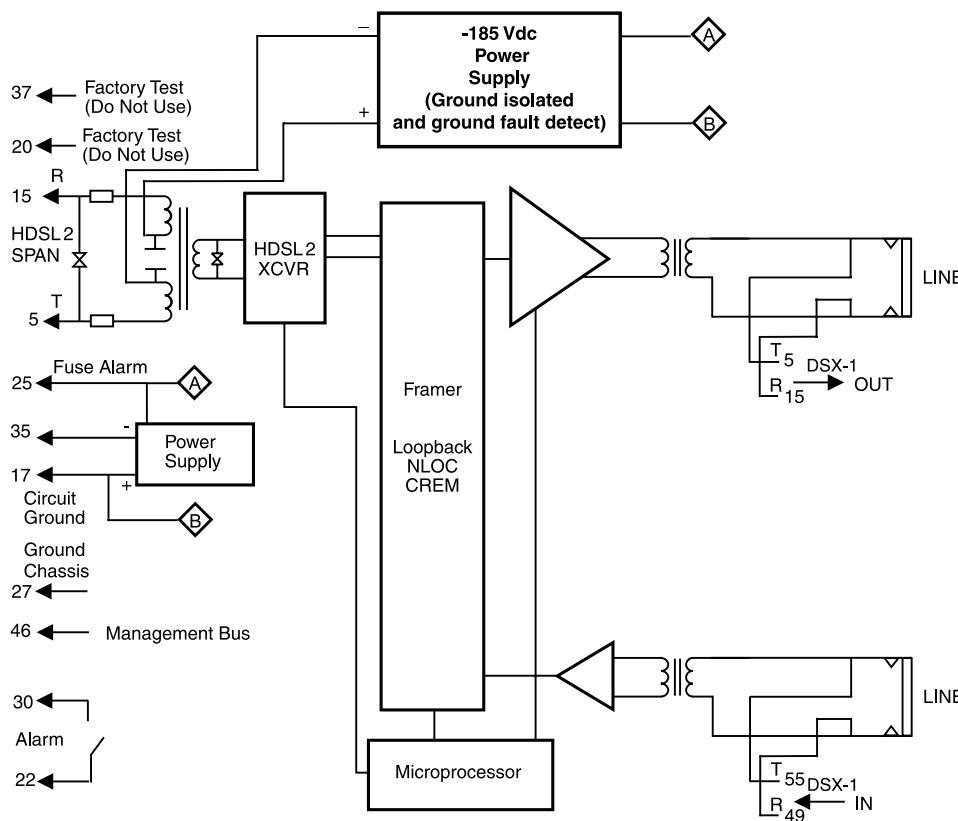

Figure 31. H2TU-C-202 List 1F Block Diagram
Figure 31 shows a block diagram of the H2TU-C-202. The H2TU-C-202 receives a 1.544 Mbps DSX-1 data stream from the DSX-1 digital cross-connect interface. The H2TU-C contains a DS1 frame synchronizer controlled by an 8-bit microprocessor that determines the type of framing on the DS1 stream. The H2TU-C synchronizes to the type of framing detected. The H2TU-C recognizes Superframe (SF), including D4, or Extended Superframe (ESF).